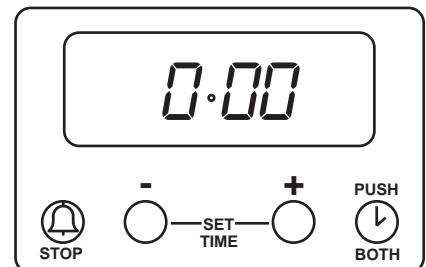
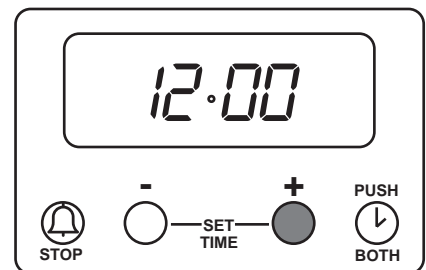

Fig. 3
Fig. 4
Press buttons (1) and (2) together. The display will read **88.88**. See Fig. 2. Release buttons, **0.00** will appear in the display as Fig. 3. **Within 5 seconds** press button (2), **12.00** will show in the display as Fig. 4.